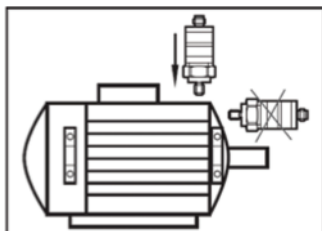

Figure 1
1. Mount only in a thick housing wall. See Figure 1.